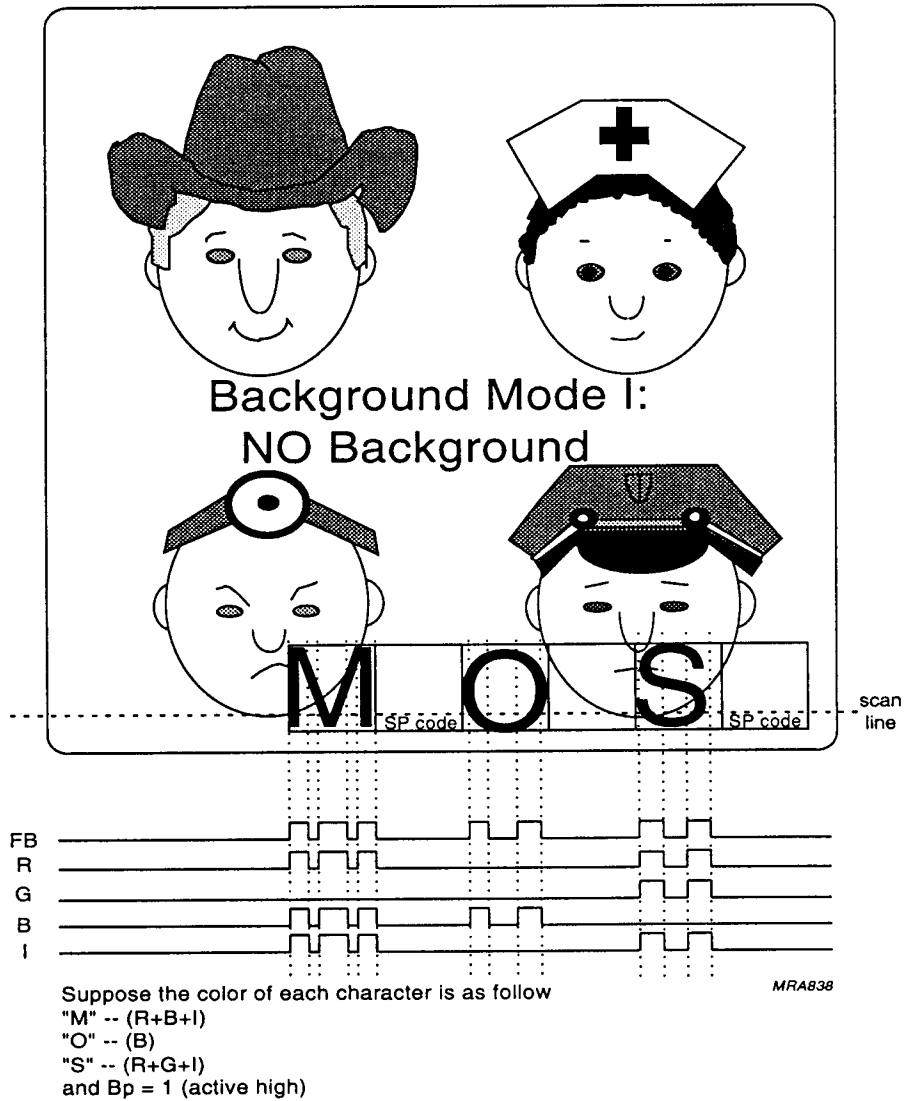

Fig.17 Background shadowing mode (I): NO Background -- Superimpose.
**Mode 0:** (Fig.17) S1,S0 = 00, "no background" mode. The OSD fonts/characters are directly superimposed on the TV video signals.